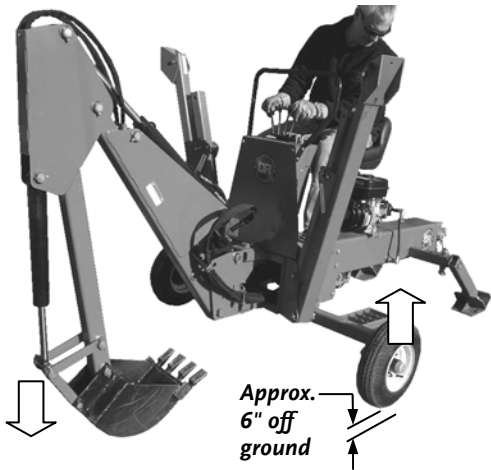

Figure 14
10. Center the Boom and slowly lower the Bucket to the ground and lift the front of the Backhoe until the Wheels are about 6" off the ground (*Figure 14*).